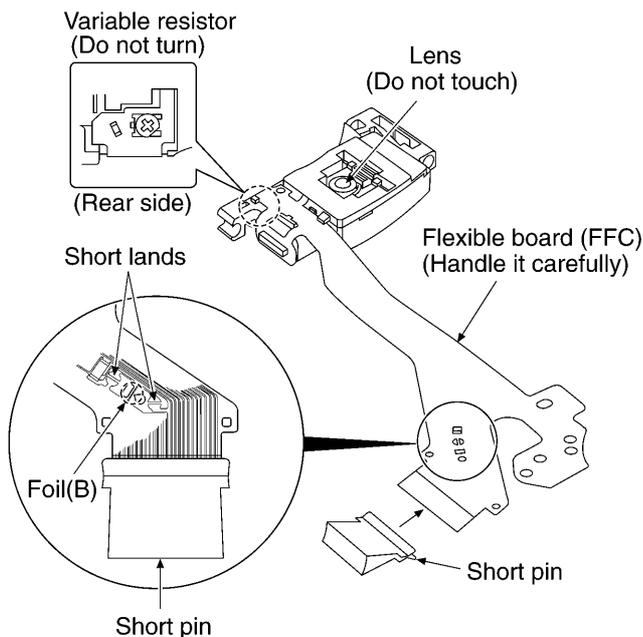

Fig. 4-1.
(Refer to Fig. 4-1.)
4. Do not turn the variable resistor (laser power adjustment). It has already been adjusted. (Refer to Fig. 4-1.)
2. Cut the foil (B). (Refer to Fig. 4-1.) (Take care not to make contact with cutting point each other.)
3. Unsolder the short lands. (Refer to Fig. 4-1.)